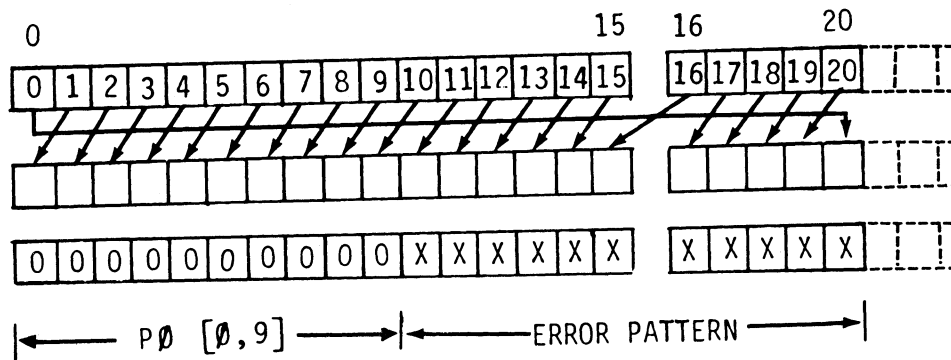

Figure 3-6. Rotation of P0 Left N Times
- a) If both P0 and P1 are EQUAL to zero (0) then no error has been detected. Exit the routine.
- b) If P0 is NOT EQUAL to zero (0) and P1 is EQUAL to zero (0) or if P0 is EQUAL to zero (0) and P1 is NOT EQUAL to zero (0) the error is not correctable. Exit the routine.
- c) If both P0 and P1 are NOT EQUAL to zero (0) proceed to step 3 below.
- 3) Rotate P0 left N times until P0 (bits 0-9) is equal to zero (0). See Figure 3-6 for an illustration of this procedure.